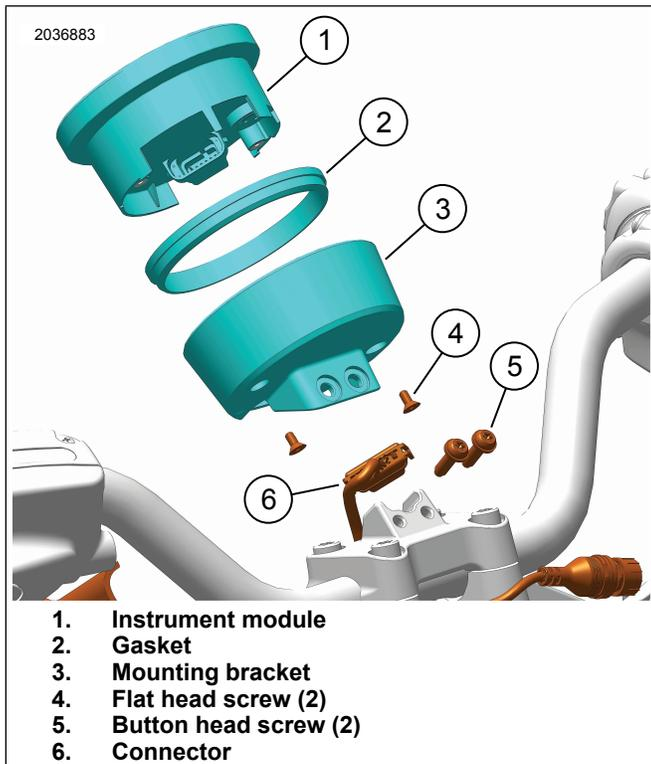

Figure 4. Round Gauge
1. See Figure 4. Remove two button head screws (5).
2. Remove two flat head screws (4).
3. Remove IM (1) from mounting bracket (3).
4. Disconnect wire harness connector (6).
5. Remove gasket (2). Replace if needed.
2. See Figure 4. Assemble IM, gasket and mounting bracket.
- a. Install gasket (2) on IM (1).
- b. Route wire harness connector (6) through back of mounting bracket (3).
- c. Connect wire harness connector (6) to IM.
- d. Install IM (1) assembly into mounting bracket (3).
- e. Install two flat head screws (4). Tighten.